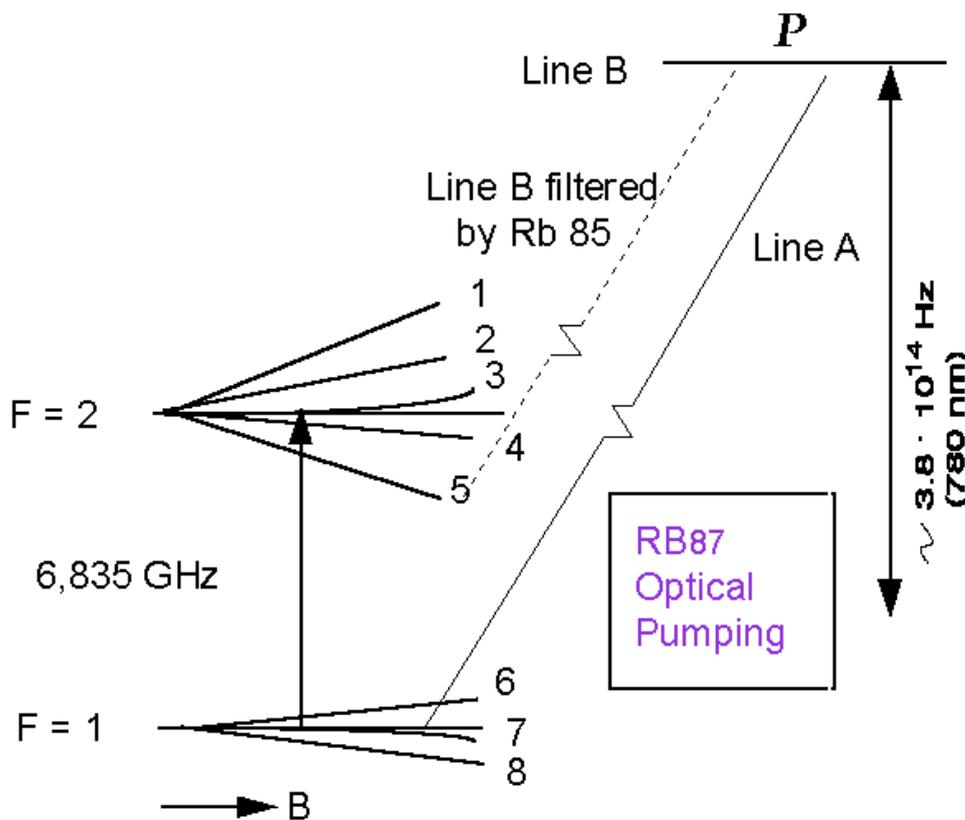

Fig. 2-1: Energy levels and transitions in Rb87 atoms during STARLPRO-1500 operation
In order to detect the clock transition between these two levels, the atoms need to be manipulated in such a way that most of them occur in only one level. This is done by optical pumping via a higher lying state (P). Fig. 2-1 visualizes the atomic energy levels and transitions involved in the optical pumping process.